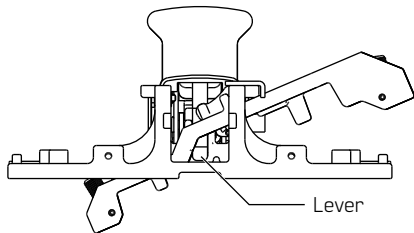

Figure 3 Rod carriage
- 3.1.4 Slide rod carriage end marked TOP toward lever. Rod carriage will begin to fall, as shown in Fig. 3.